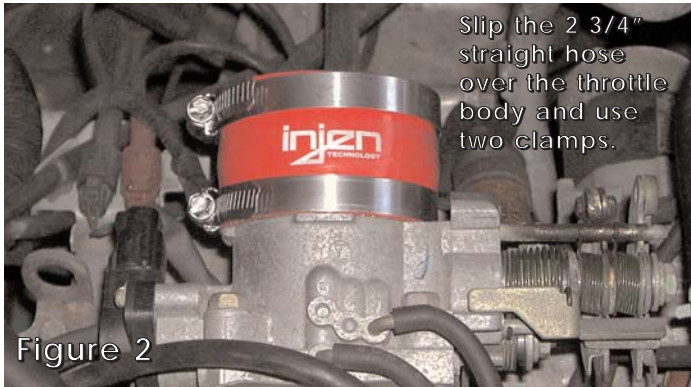

Figure 2
2. Press the 2 3/4" straight hose over the throttle body. Tighten the clamp on the throttle body at this point. See fig. 2